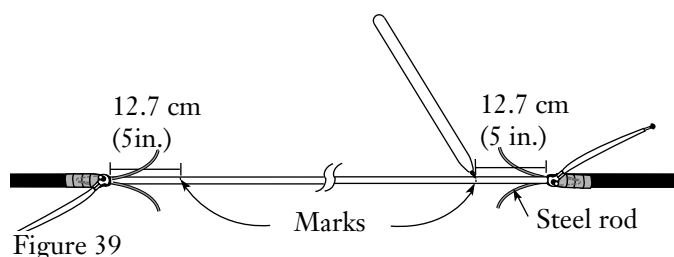

Figure 39
7.26 Place a mark 12.7 cm (5 in.) from the end of each side of the exposed section of central tube with a permanent marking pen (Figure 39). *This length may vary depending on the hardware being used.*